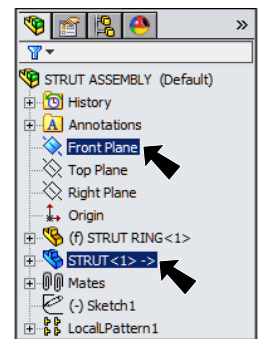

Fig. 12
Step 1. **Ctrl click Front Plane**  and **Strut** in the Feature Manager to select both, **Fig. 12**.